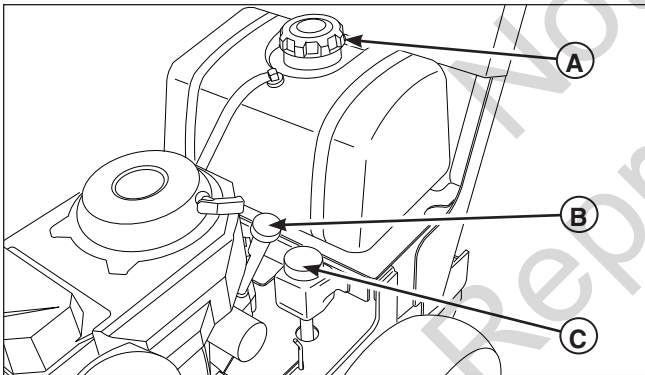

Figure 1. Pre-start Checks
- Check that crankcase is filled to full mark on the engine oil dipstick (**B**, **Figure 1**). See the engine Operator's Manual for instructions and oil recommendations.